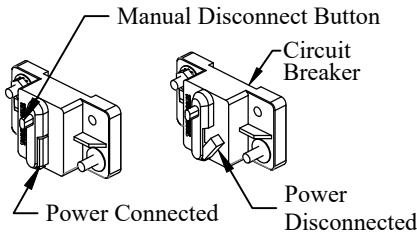

Figure 2: Circuit Breaker
- 2. **Disconnect** the power cable from the positive side of the battery or manually **Trip** the circuit breaker (Figure 2).